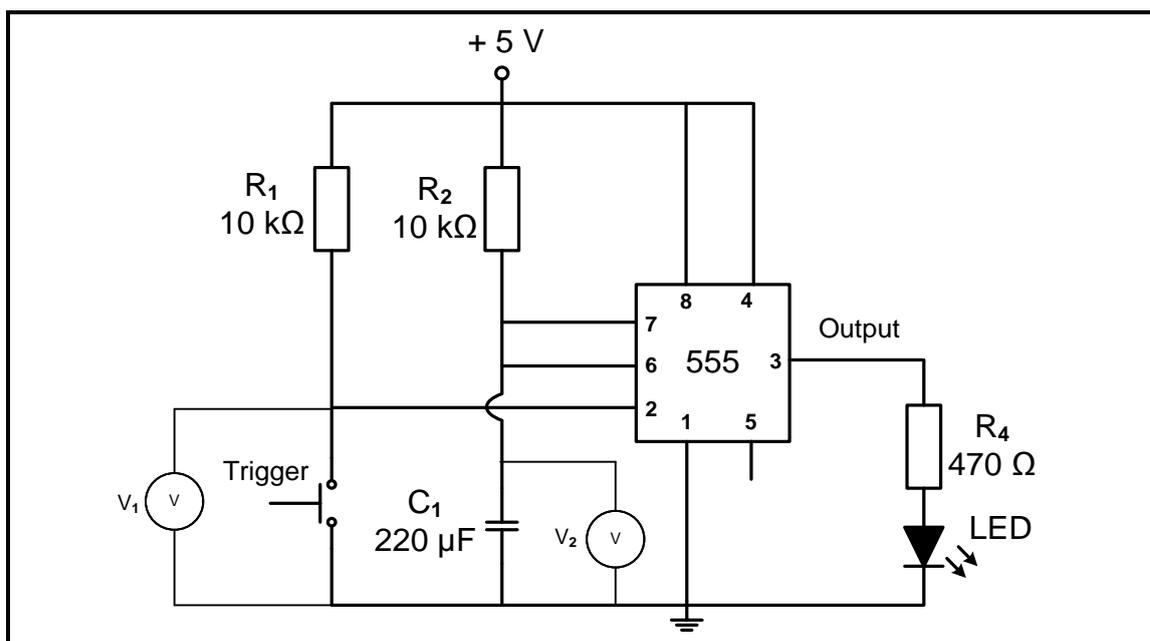

FIGURE 4.2.3: 555 MONOSTABLE MULTIVIBRATOR
- To build the monostable multivibrator in FIGURE 4.2.3 using a 555 IC.
Build the circuit diagram in FIGURE 4.2.3 on your experiment board.